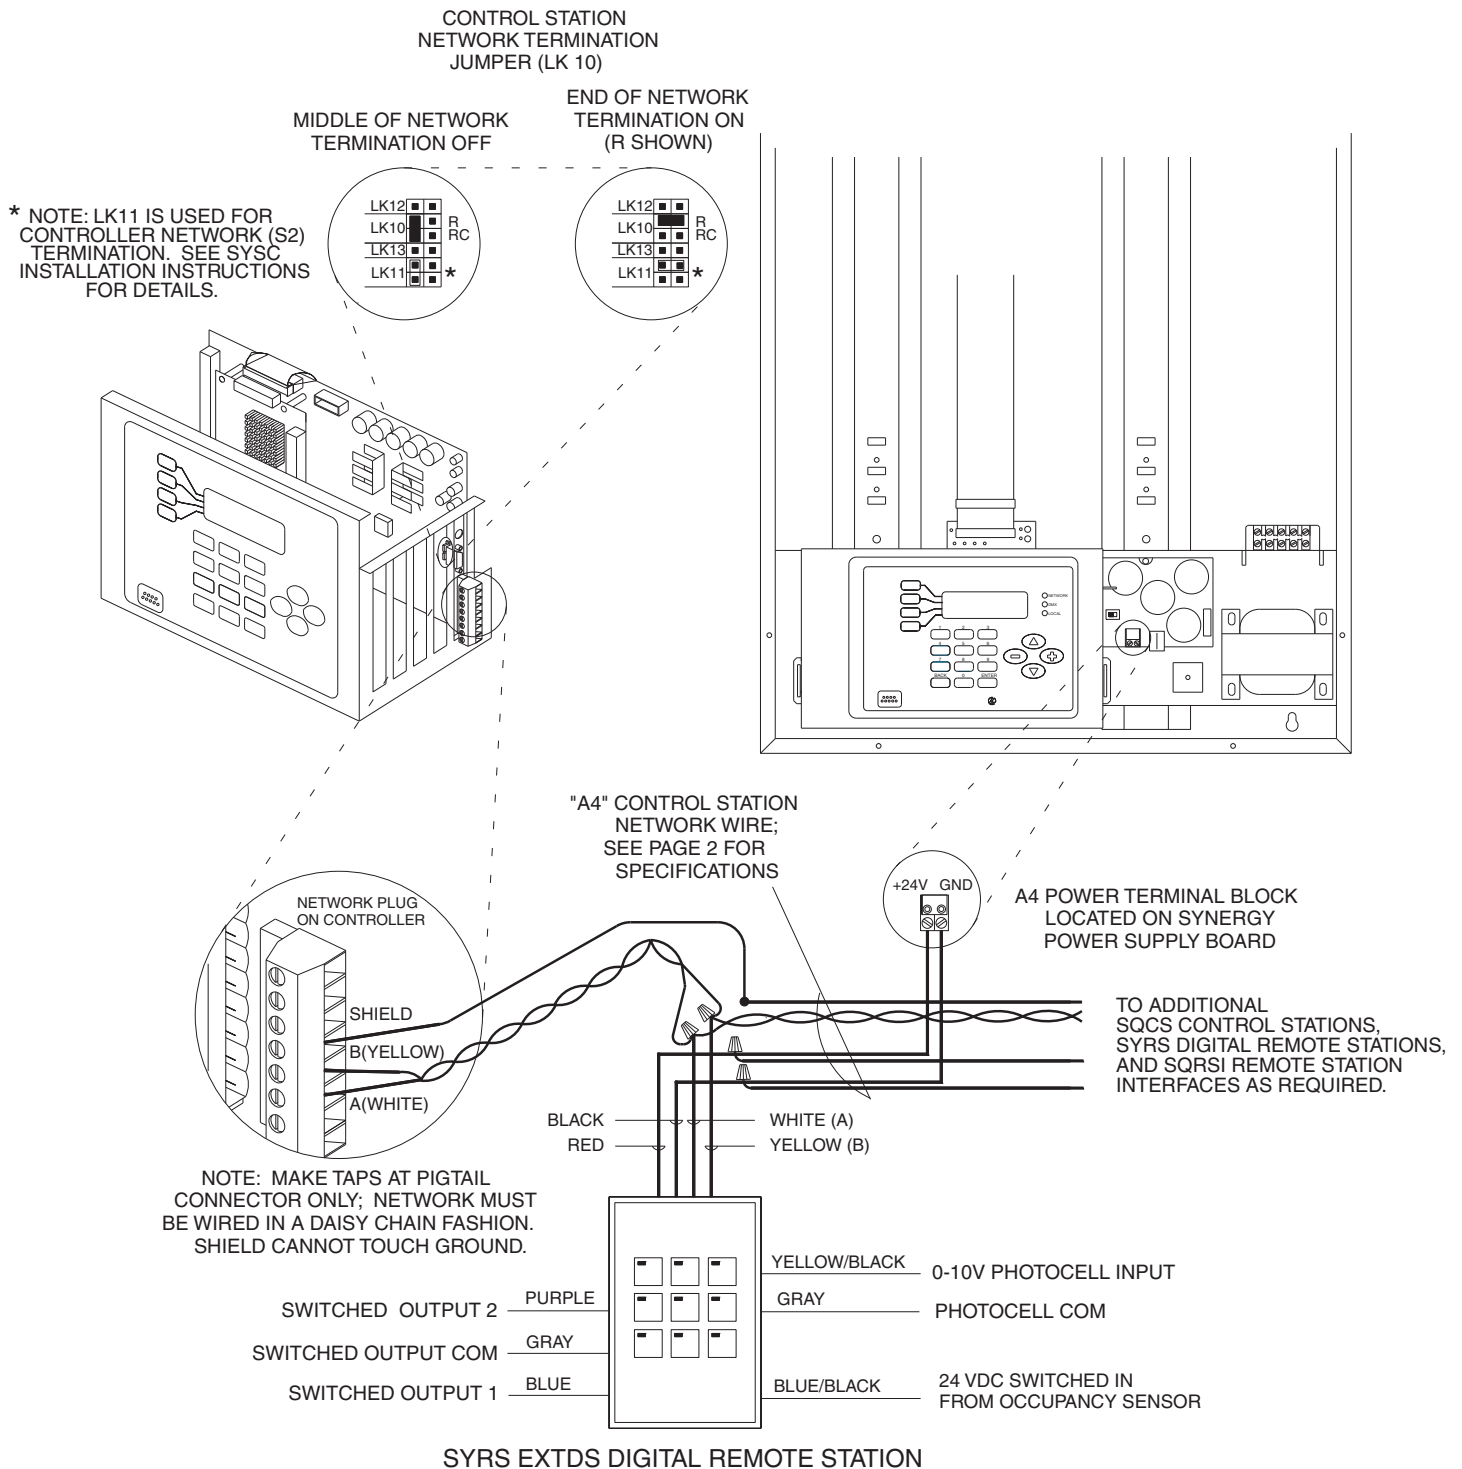
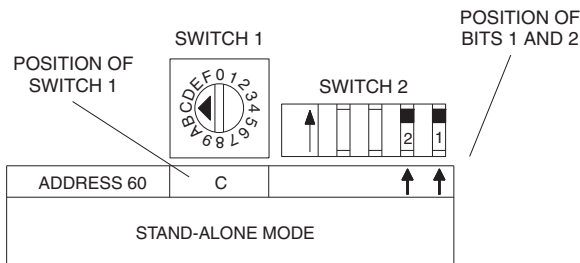

**Figure 3 - SYRS EXTDS Button Numbering**
Figure 9 - Stand Alone Mode Dip Switch Setting
(2) #16 AWG conductors for power and (1) EIA-485 approved twisted and shielded pair for data signal. Approved cables are Lithonia SYA CABLE A4 (four conductors) or (1) Belden 3105A (2 wire, twisted and shielded pair) and 2 #16 AWG conductors, supplied by others.
7. See *Figures 3 - 6* for detailed interconnect wiring of SYRS station network.
SYRS stations can be powered from the Synergy SYE enclosure power supply or a remote LPCS power station. The Synergy MLX system controller supports a maximum of 60 A4 network devices. A single SYE enclosure power supply can power a maximum of 20 SYRS stations. A single LPCS power station can power a maximum of 4 stations. See *Figures 3 and 4* for appropriate details. If the A4 network requires more than 20 SYRS stations, consult factory for guidelines. If a power supply is powering other network devices in addition to the SYRS stations, consult factory for guidelines.
The SYRS EXTDS is available with 2, 4, 6 or 9 buttons. Each button can be programmed for single or multiple circuit control. The SYSC system controller stores the programming information for each button to output group assignment. Each button configuration requires a specific programming configuration. (See *Figure 3* for button numbering schemes) The SYRS station ships from the factory with the button configuration pre-programmed. In the event the button configurations are lost, the station will indicate an error condition by flashing all the button (green) LEDs in a Blink – Blink – Pause – Blink – Blink – Pause pattern. See the troubleshooting section for details on reprogramming the button configuration.
The SYRS EXTDS has a special operation mode in which it can operate as a stand alone unit, this mode is entered by setting the station address to 60. (See *Figure 9* for details) Stand alone mode is intended to be used with 2, 4 or 6 button stations. A 9 button station can be used as well but will have 3 unused buttons. When operating in stand alone mode, control is as follows: (See *Figures 3 and 6* for button and output numbering)